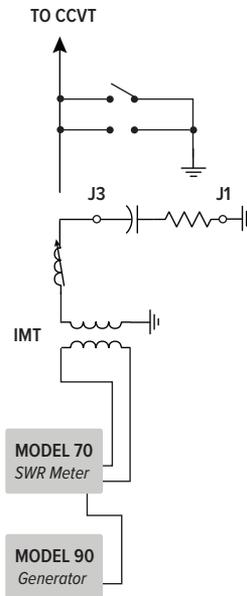

FIG 4 - SERIES INDUCTOR TEST CONNECTIONS
7. Connect the Model 630 test box red terminal (J3) to the output of the series inductor and the black terminal (J1) to ground (See Fig. 4). This connects the test box for resistance and capacitance.